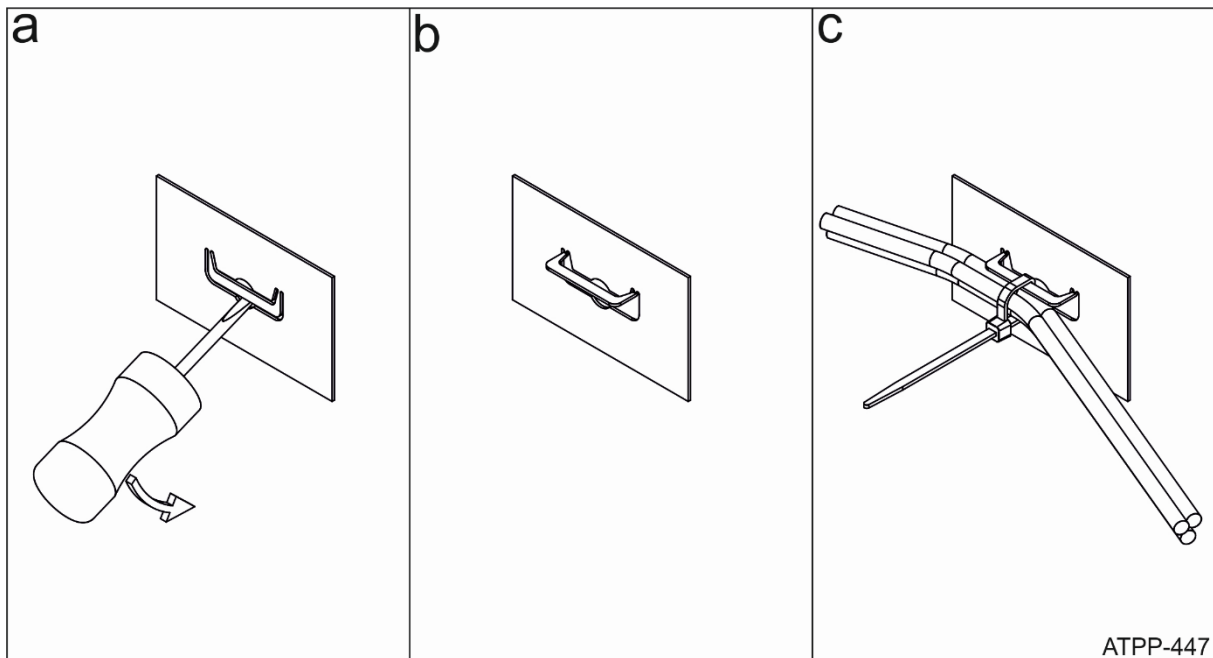

Fig. 3 Cable fixing method
7. In order to arrange the cables inside the enclosure, they should be fastened with cable ties to the G details. In order to use the G details, they must be levered first (ex. with a screwdriver) and bend to the vertical position (Fig. 3).